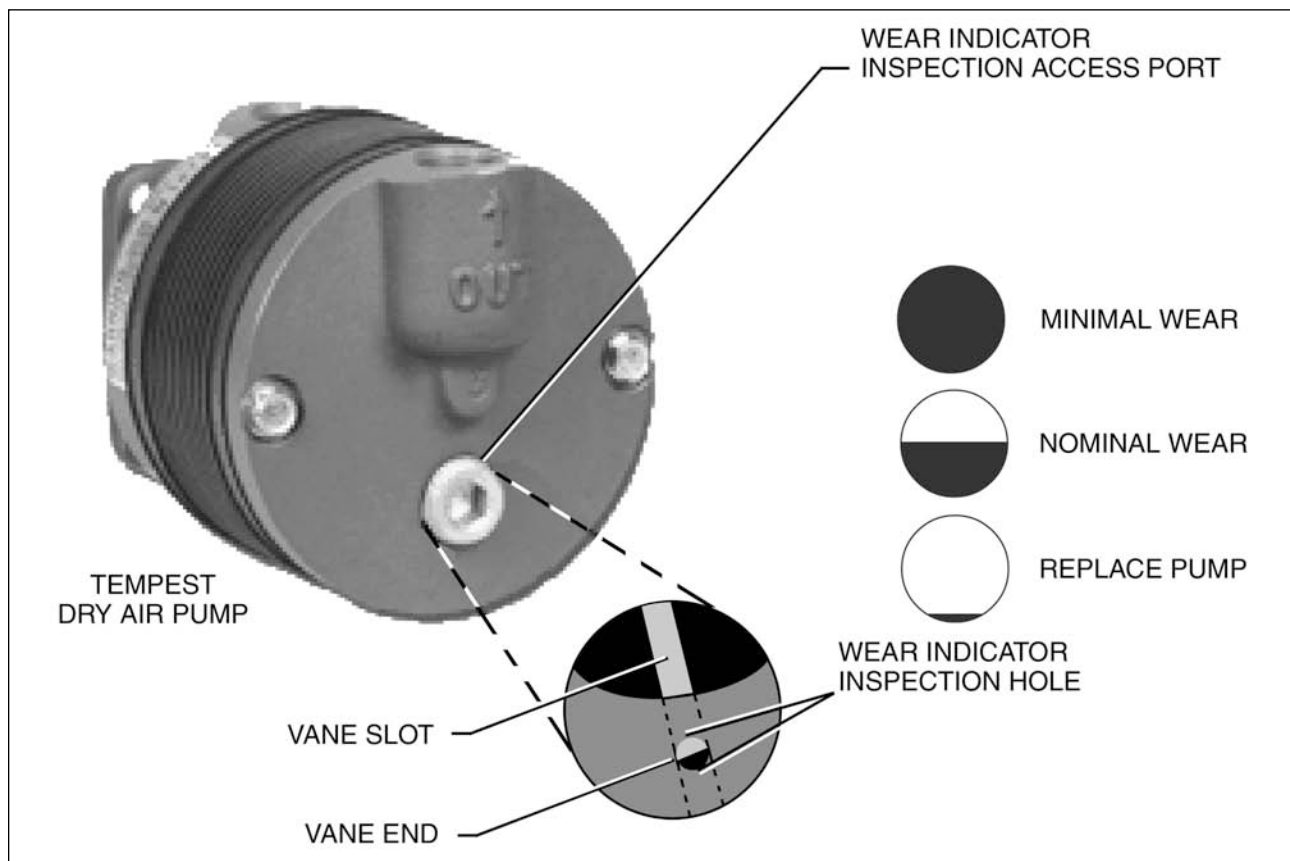

Figure 3-15. 215/216 Series Vacuum Pump Vane Wear Inspection
- (1) Remove the inspection port plug and observe vane wear as shown in Figure 3-15.
- (2) As vanes wear, they slide outboard in the vane slots in the rotor.
- (3) When the portion of the vane that can be observed in the inspection hole covers approximately 1/8 TH of inspection hole, replace the pump.